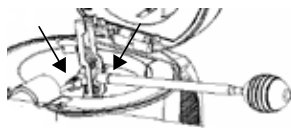

Fig.13
5. Slowly squeeze the pump so that water flows up the pipe and through the tap (Fig. 13).